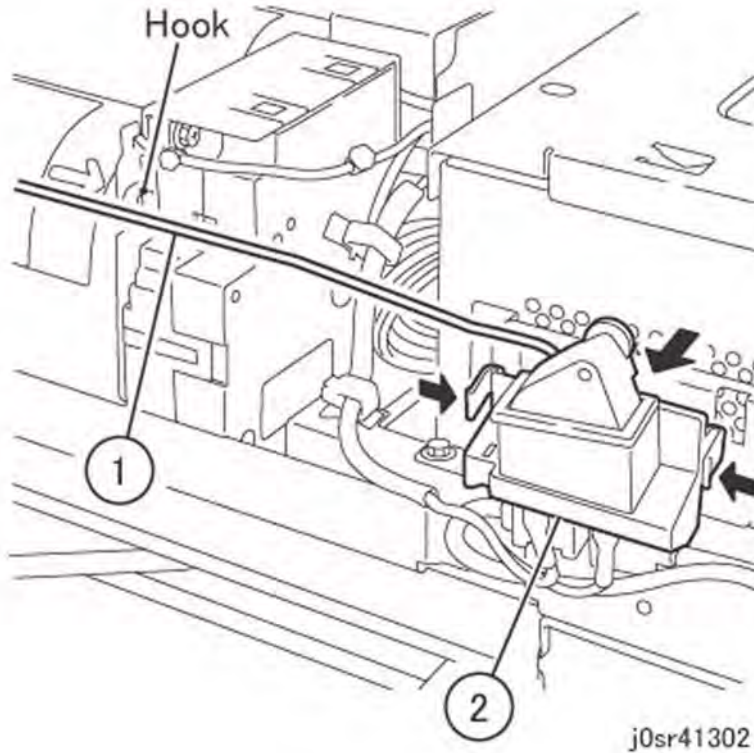

Figure 1 Removing the Switch Assembly
4. Remove the Main Power Switch (Figure 1).